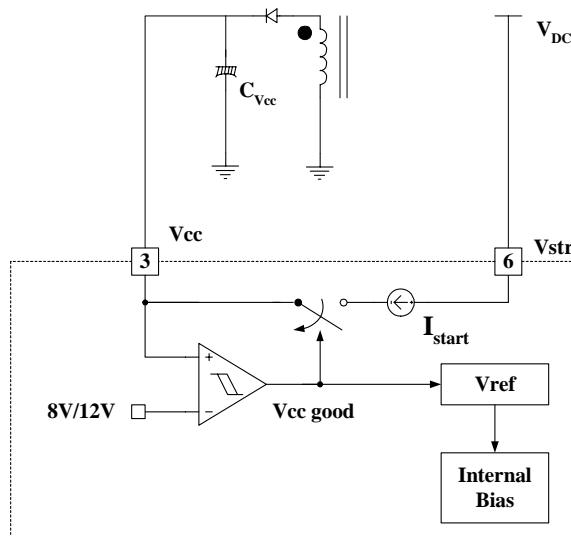

Figure 4. Internal startup circuit
1. Startup : In previous generations of Fairchild Power Switches (FPSTM) the Vcc pin had an external start-up resistor to the DC input voltage line. In this generation the startup resistor is replaced by an internal high voltage current source. At startup, an internal high voltage current source supplies the internal bias and charges the external capacitor (C_{VCC}) that is connected to the Vcc pin as illustrated in Figure 4. When Vcc reaches 12V, the FSDM07652RB begins switching and the internal high voltage current source is disabled. Then, the FSDM07652RB continues its normal switching operation and the power is supplied from the auxiliary transformer winding unless Vcc goes below the stop voltage of 8V.